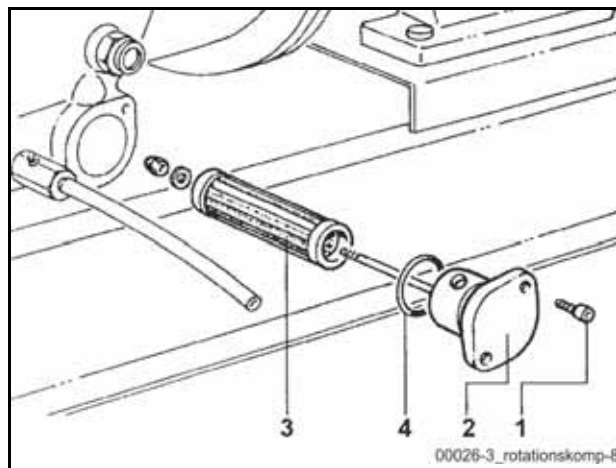

Fig. 384 Oil filter
- Loosen the screws **(1)** on the filter cover **(2)** (**Fig. 384**).